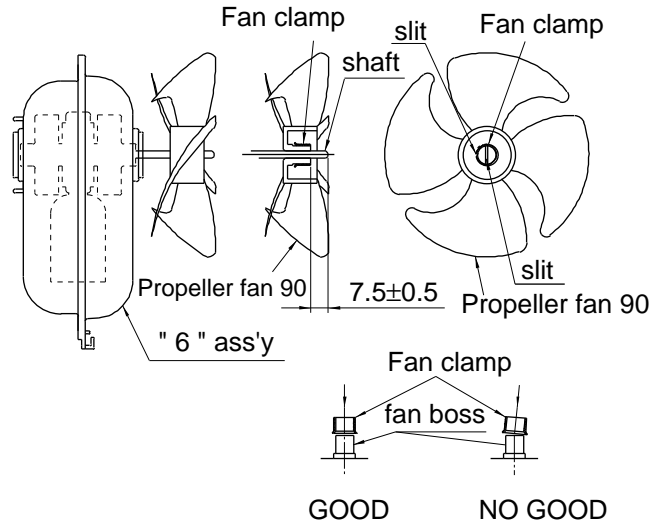

Fig. A-15
7. Set Propeller fan 90 and Fan clamp to " 6 " ass'y as shown in Fig. A-15.